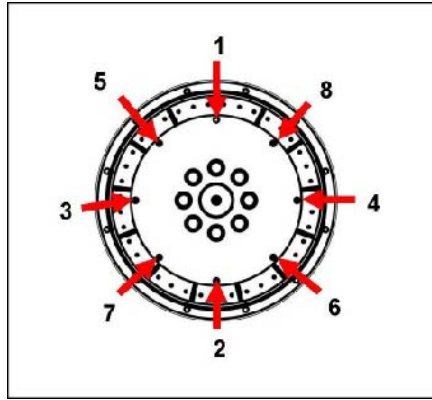

FIGURE 22. FIXING SEQUENCE
10. Tighten the bolts to fix the coupling disc to the flywheel, in the sequence shown in Figure 22 on page 38.